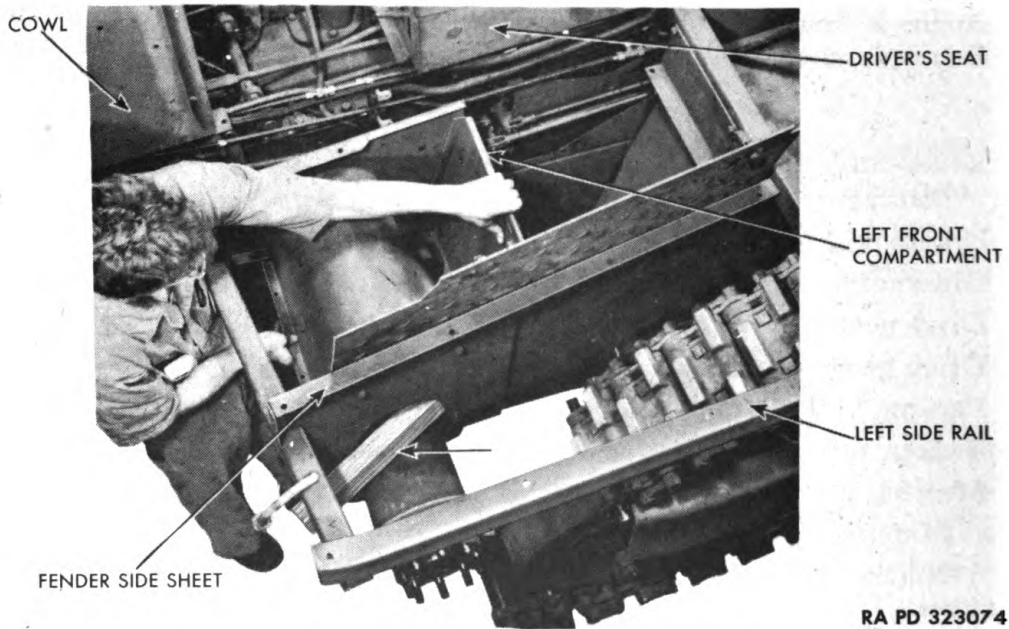

Figure 74 — Removing Left Front Compartment
c. Remove Left Side Seat Bottom. Remove 30 cap screws and lock washers, and 27 nuts securing seat bottom to left side rail and to left side sheet (fig. 74).
h. Loosen Front Fender Left Support (fig. 74). Remove four cap screws and lock washers securing left fender side sheet to final drive housing. Pry fender side sheet away from housing, and place a 2-inch block between sheet and housing.
i. Remove Left Front Compartment (figs. 74 and 75). Remove two cap screws and lock washers securing left front compartment to fender side sheet. Lift out left front compartment.